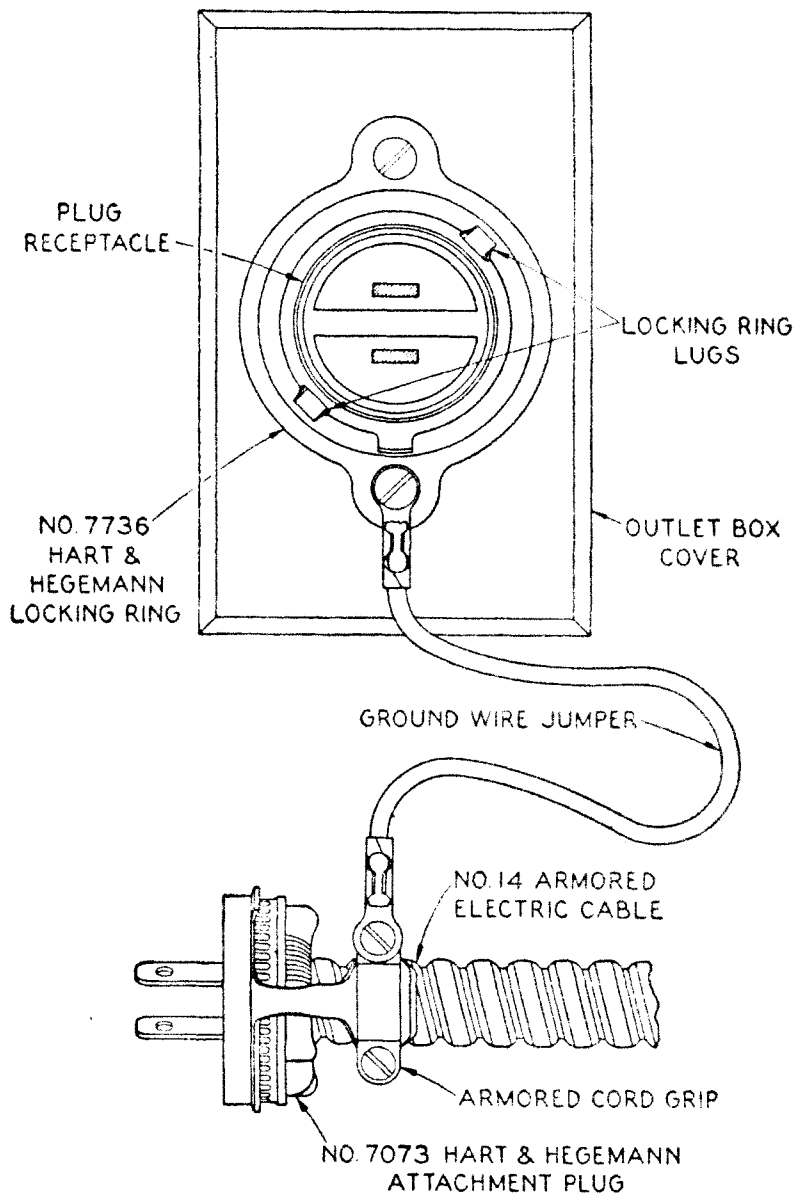

Fig. 5—2-Wire Receptacle and Plug
6.10 A parallel blade, single (not duplex) flush-type receptacle for 2-wire attachment plugs should be provided. Grounding is accomplished by terminating the ground-wire jumper, attached to the armor of the cable, under one of the attachment screws of the locking ring as shown in Fig. 5.
6.11 Connection between the 2-wire receptacle and the booth-lighting equipment is made with a 2-conductor armored flexible cable, the plug end of which is secured in the receptacle by means of a locking ring and locking-type plug. See Figs. 5 and 6.